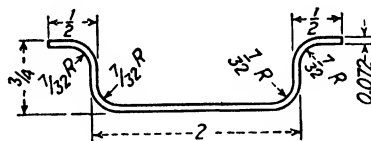

Fig. 259.
4. Calculate the total bend allowance and over-all length of the flat pattern for the fitting in Fig. 259. All bends are  $90^\circ$